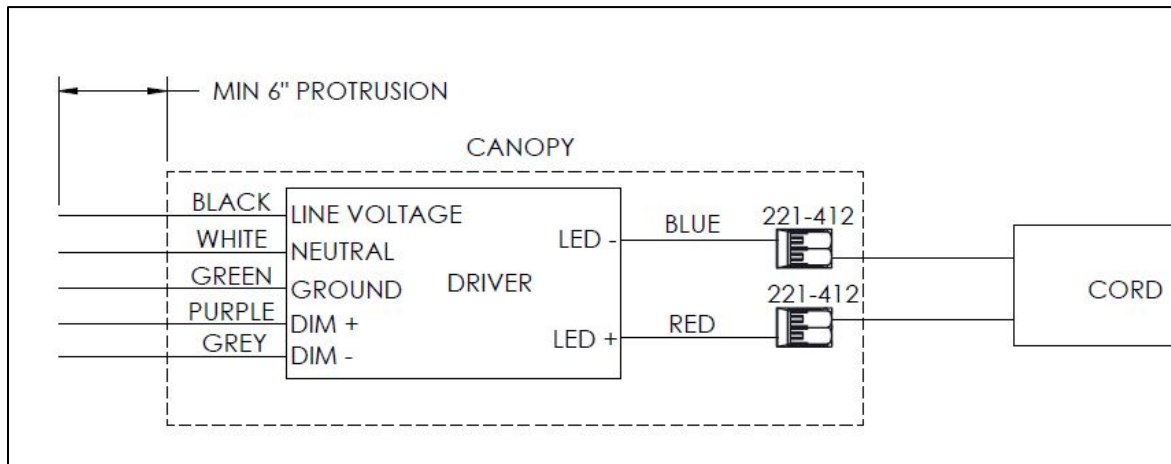

FIG. 30 – WIRE DIAGRAM
- Make wire connections between DRIVER and FIXTURE CORD, all wire connections in the inside the junction box (by others) in accordance with the national electrical code and all applicable local and state codes. See WIRE DIAGRAM below as shown in FIG.30 and instructions on how to shorten/install the cord on page 11.
7. Make wire connections between BUILDING SUPPLY and DRIVER. See WIRE DIAGRAM as shown in FIG. 30. make all wire connections in accordance with the national electrical code and all applicable local and state codes.